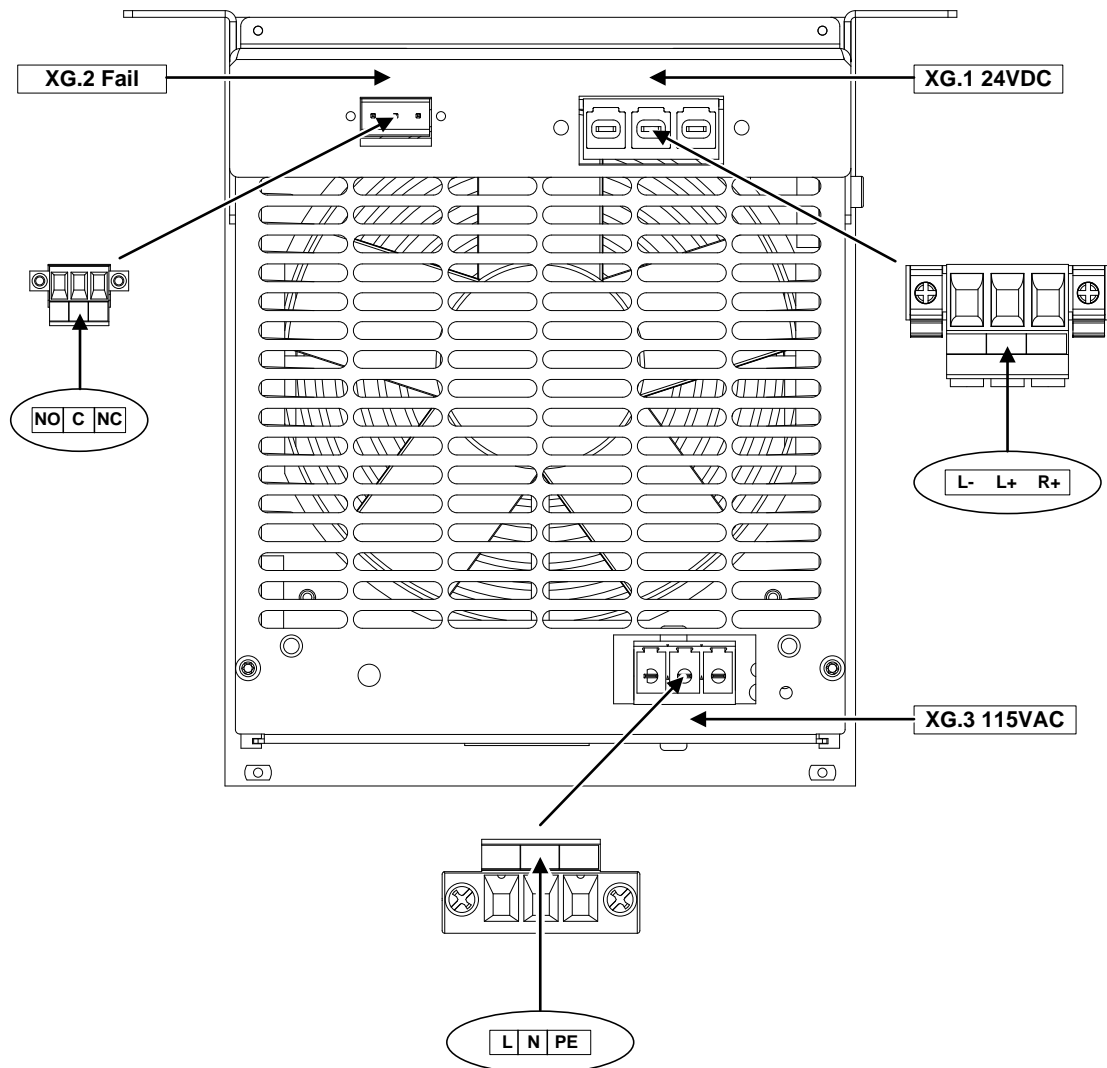

Figure 5: Location of Labels and Female Connectors
3. Plug the wired female connectors into the power supply unit and use the corresponding screwdriver to secure them, see Figure 5.